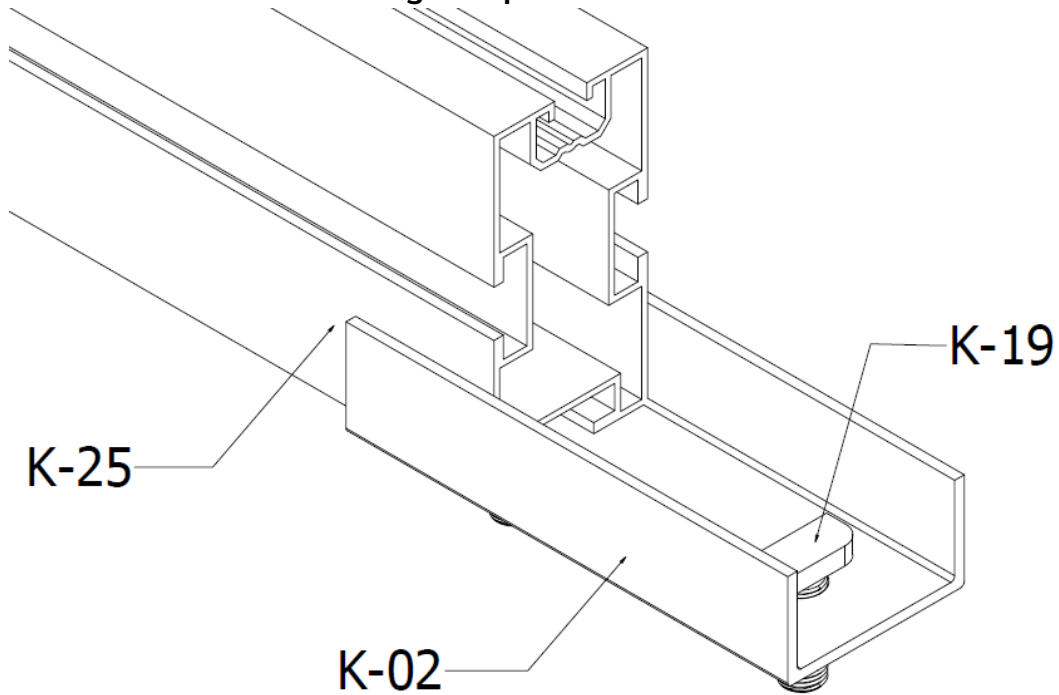

FIG. 12. Assembly of K-02 connector with K-25 profile
- 11.** Prepare the aluminium mounting profiles. Connect them in an amount corresponding to the length of the entire structure. Keep a few centimetres of reserve to allow for possible adjustment. In order to maintain the continuity of the profiles, at the points where they are joined one after the other, use the K-02 connector by applying it to the ends of two adjacent profiles. Screw the connector together using two screws from K-19 "T-bolts" – Fig. 12. Profiles can be cut to the required length.